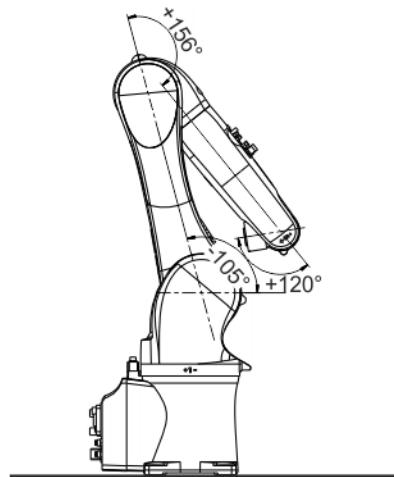

Fig. 11-6: Transport position
3. Put the robot into operation and move it into the transport position (**>>>** Fig. 11-6).